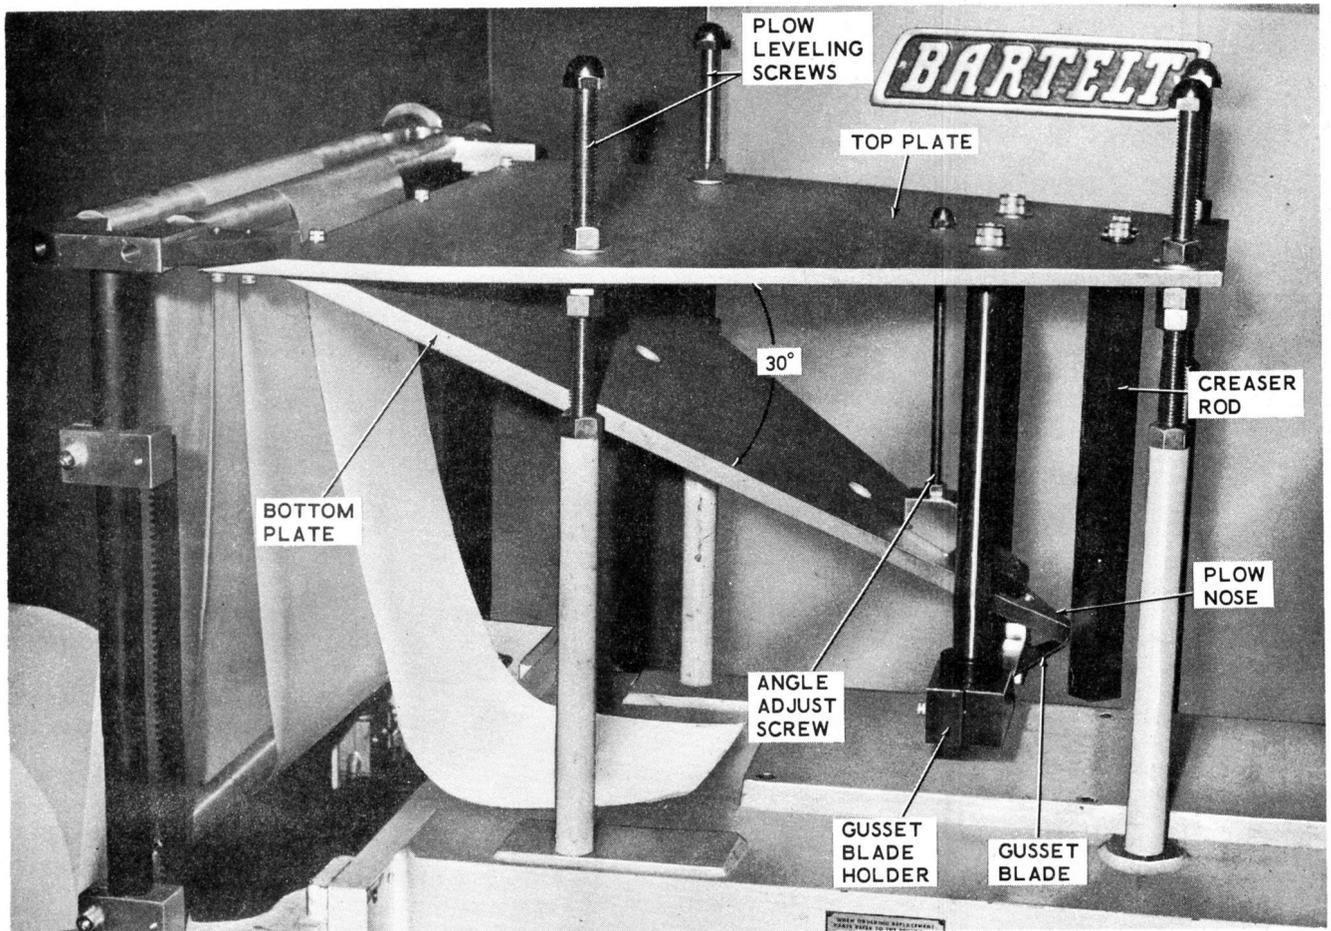
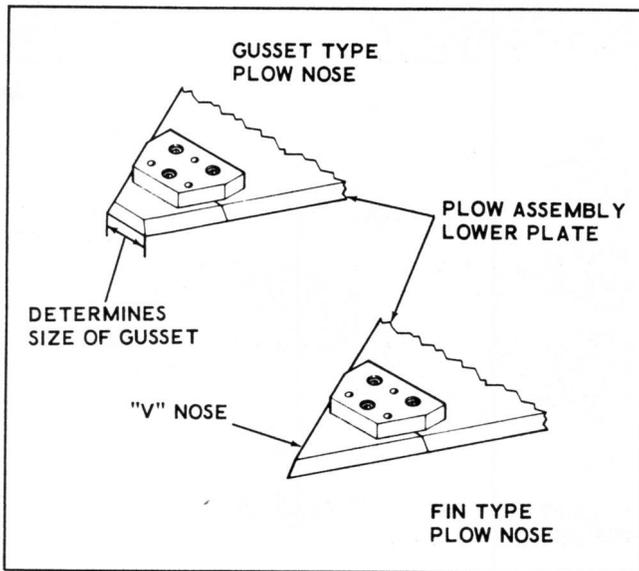

Figure 3-8. Web Forming
Figure 3-9. Plow Noses
The web forming assembly (Figure 3-8) consists of a top plate, plow bottom plate, plow nose, and creaser rods. The top plate must always be level with the Packager and the interior angle between the top plate and plow bottom plate must be 30 degrees.
a. The interior angle between the plow assembly plates is adjusted by angle adjust screw (Figure 3-8).
b. Use a GOOD mechanics level to level the plow assembly. Check the level of the plow assembly both longitudinally and laterally and adjust as necessary using plow leveling screws and nuts (Figure 3-8).
Two types of pouch bottom folds may be formed on the web forming assembly; fin type and gusset type. To form a fin type pouch, a plow nose with a Vee point (Figure 3-9) is attached to the plow bottom plate.
A gusset pouch is formed by a plow nose that is cut back square (Figure 3-9). The plow nose is cut back the amount required to make a certain dimension gusset. For example, a one inch gusset is formed by a plow nose that is cut back until the width of the flattened point is one inch. A gusset blade must be used in conjunction with a gusset plow nose to produce a gusset type pouch. This gusset blade is Vee shaped (Figure 3-8) and mounted to a holder which is suspended by posts from the top plate. The gusset blade forms the bottom half of a fixture (plow nose is top half) to form and fold the web. To change the size of gusset pouch, a new gusset plow nose must be installed to suit the new size.
Two square creaser rods (Figure 3-8) are installed on the plow top plate to complete the forming of the gusset or fin pouch. One edge of each creaser rod is positioned on each side of the apex of the fin nose or the gusset blade to complete the creasing of the web as it is pulled through toward the side seal station.